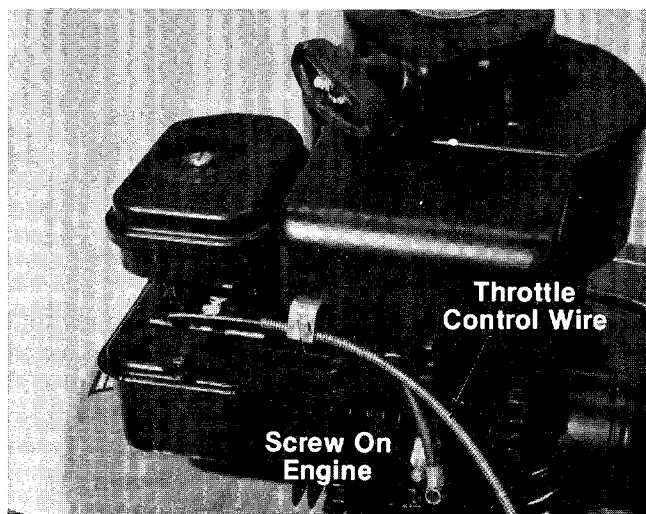

FIGURE 17.
1. Loosen, but do not remove, the screw securing throttle control wire assembly at engine. See figure 17.